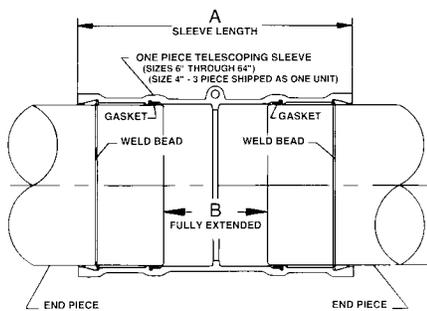

Figure 6. TR FLEX.
With the required closure piece laying length known, the laying length of the pipe end pieces for the telescoping sleeve can be calculated. The combined laying length of both pieces will be shorter than the length measured for the closure, since, as installed, the extended telescoping unit will have a gap between the ends of the pipe inside the telescoping sleeve. The length of this gap must be subtracted from the combined length of both end pieces to determine the combined cut length required. The gap length (B), shown in Figure 6, is given in Table 1, Column B.
The gap length (B in Figure 6) of a 16" sleeve from Table 1 is 17.10" long. The combined laying length of the two pieces of pipe used in the telescoping sleeve must be 17.10" shorter than the measured closure length of 189.50" as follows: